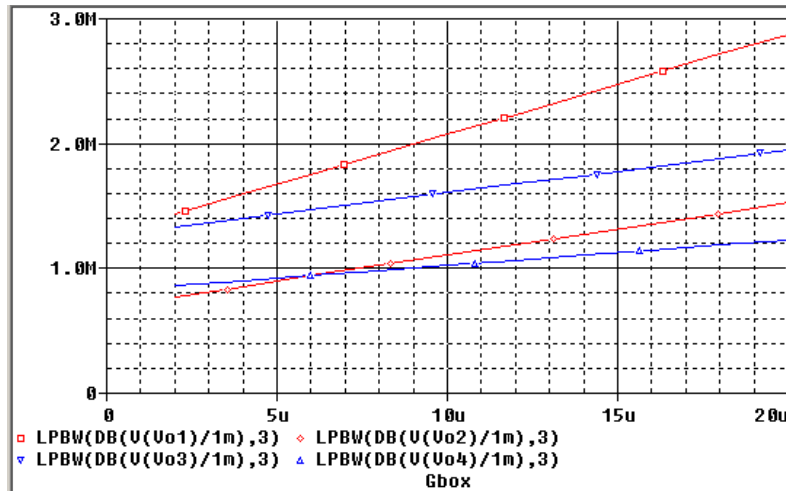

Figure 11B-1. Simulation of emitter tests using pSPICE. f_{3dB} vs $1/R_{box}$.
B-1. Remove transistor Q2. Insert jumper wire #1. Keep jumper wire #2 (as connected to the 4.7k resistance) in place. Monitor CH2 and ignore CH1. Repeat the measurement sequence with R_{box} stepped from 25k to 400k as before to generate a new column set of (5) f_{3dB} data points. Caution: This is a relatively high frequency circuit and may be partly out of bounds of your instrumentation, so it is possible that you will not be able to acquire a good set of points. Try to acquire at least three data points in order to define a slope. The simulation of this set of measurements is reflected by figure 11B-1.